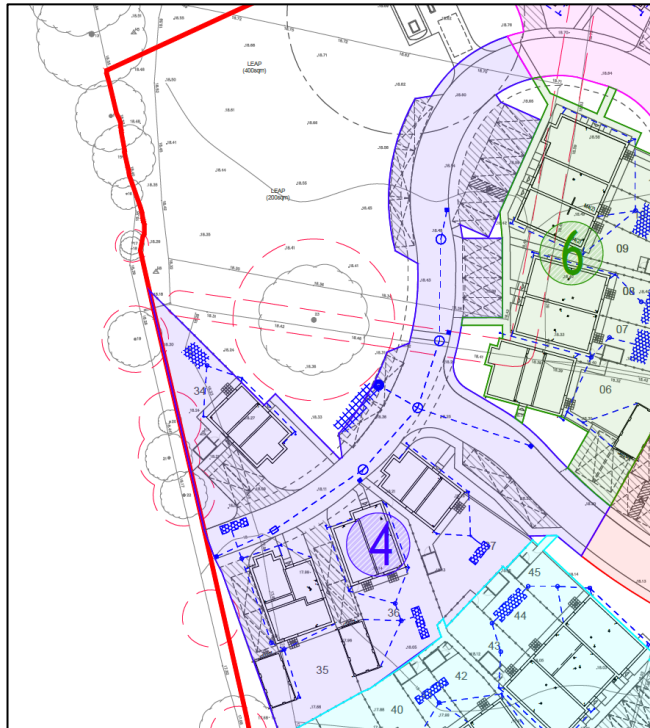

Figure 2- Site extent of Area 4
- 1.10 **Figure 2** shows the extent of Verification Area 4, comprising of 4 dwellings and associated roads.